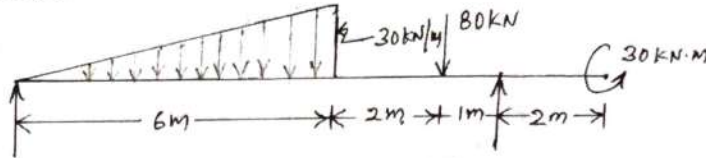

Fig. Q5(b)
b. Develop shear force diagram and bending moment diagrams for the beam loaded shown in Fig. Q5(b) marking the values at salient points. Determine the position and magnitude of maximum bending moment.